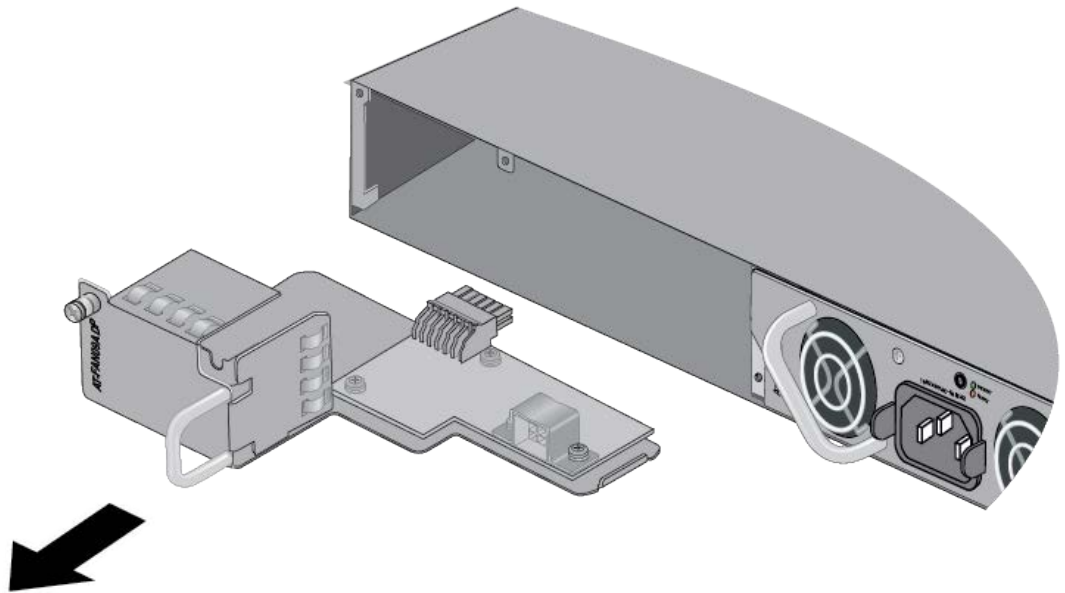

Figure 33. Removing the AT-FAN09ADP Module
6. Carefully remove the AT-FAN09ADP Module from the switch. Refer to Figure 33.